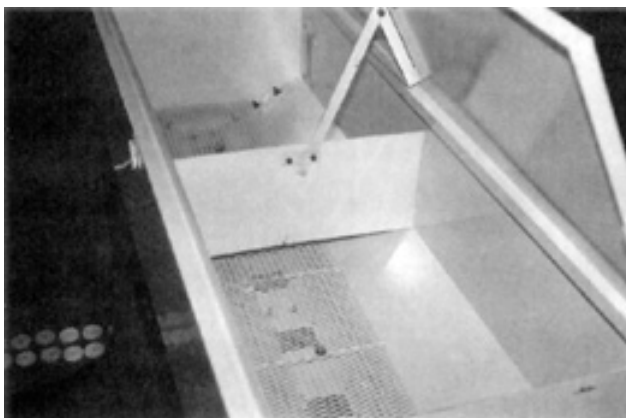

FIGURE 4. Box Opening.
**Filling:** Ease of filling was good. The box openings were about 7.8 ft (2.4 m) above ground which was too high for some drill fills. During the tests, a 30 ft (9.1 m) grain auger with a flexible spout worked well. The cultivator could be backed under the auger to fill all boxes without moving. The large 21 in (535 mm) opening (FIGURE 4) gave ample room for auger filling. The screens in the boxes helped to trap large clumps of foreign material above the metering cups. The screens were easily removed for access to the cups or for cleaning.